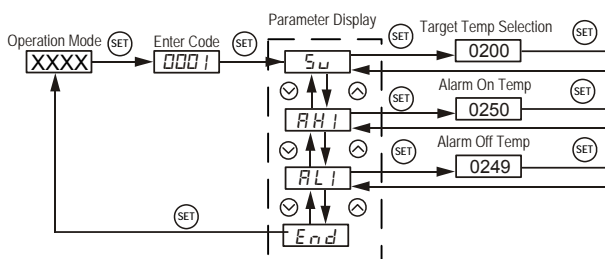

Figure 5. Flow chart for how to set target temperature and alarm
The temperature and alarm parameters are listed in table 4. To change the parameters, press **SET**, enter code "0001", press **SET** again. Figure 5 is the parameter flow chart.
- b. Follow the flow chart shown in Figure 5. This method is easier for large temperature change. e.g. When changing from 100 to 2000 degree, user can make 1000 degree increment by one key stroke. If no key is pressed after confirmation of SV, the controller will return to normal operation mode automatically in 1 minute.